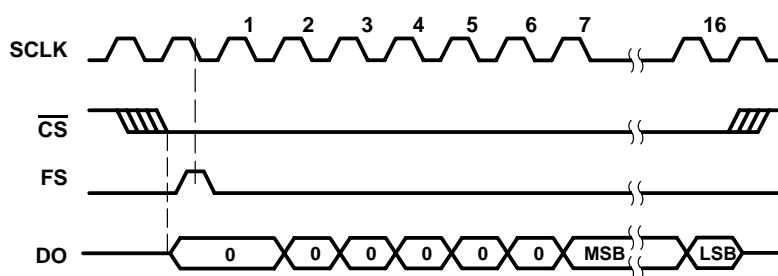

Figure 4. Typical Timing Diagram for DSP Application
The TLV1572 checks FS at the falling edges of SCLK. Once FS is detected high, the sampling of input is started. As soon as FS goes low, the device starts shifting the data out on the DO line. After six null bits, the A/D conversion data becomes available on the SCLK rising edges and is latched by DSP on the falling edges. Figure 4 shows the DSP mode timing diagram.
For applications where the analog input must be sampled at a precise instant in time, data conversion can be initiated by an external conversion start pulse which is completely asynchronous to the SCLK as shown in Figure 4. When a conversion start pulse is received, the pulse is used as a frame sync (FS) signal to initiate the data conversion and transfer. The corresponding timing diagram is shown in Figure 6.